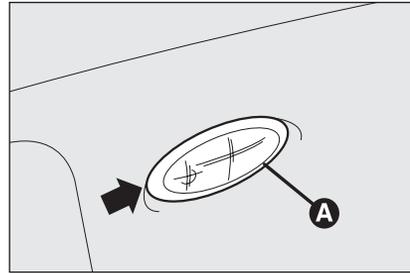

fig. 38
- remove the light unit **A-fig. 38** levering in the point shown by the arrow;